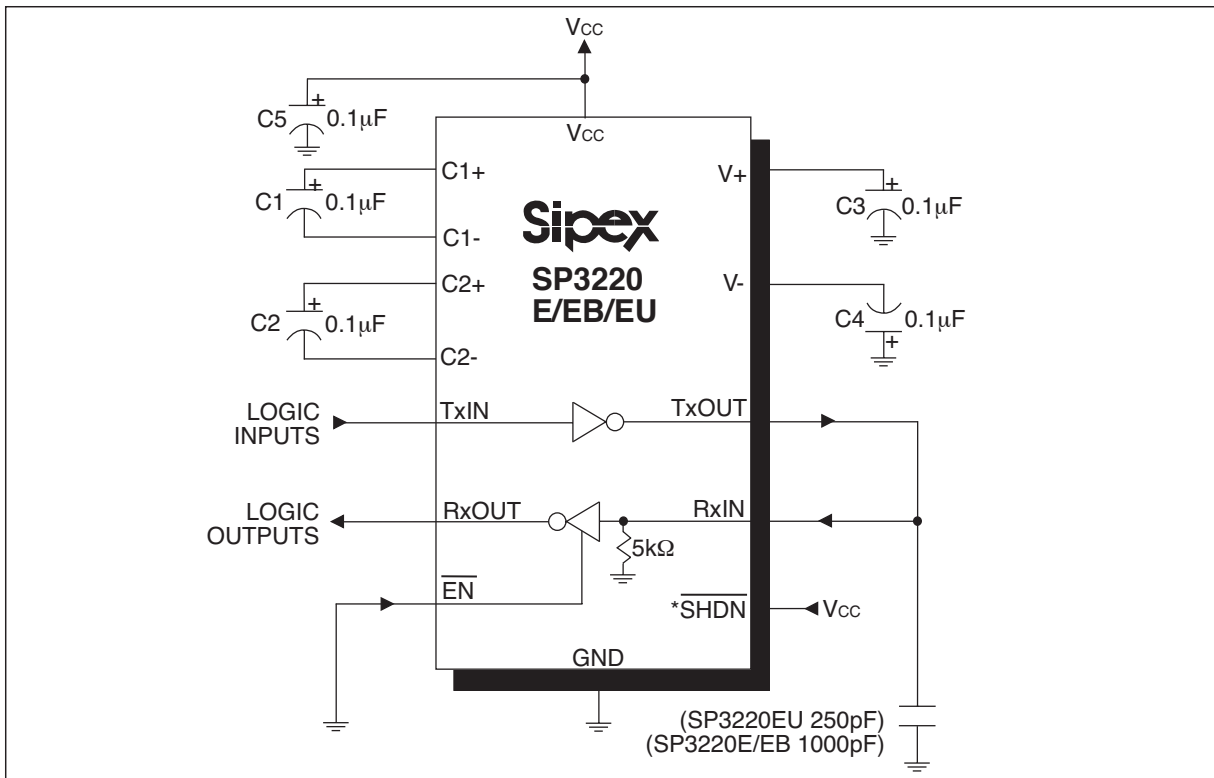
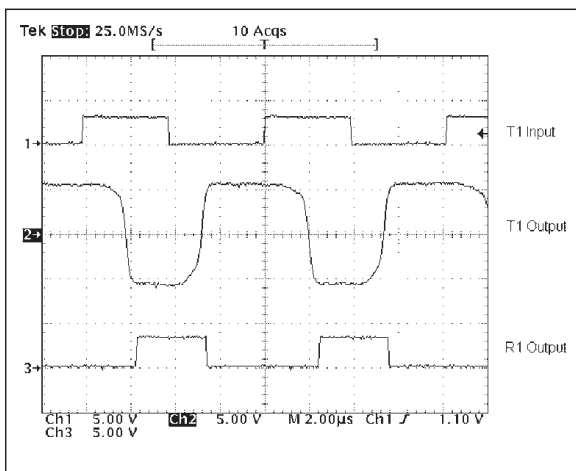
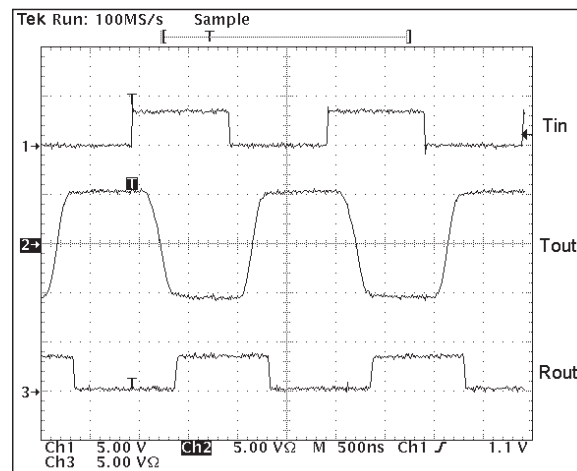

Figure 12. SP3220E/EB/EU Driver Loopback Test Circuit
Figure 13. SP3220EB Driver Loopback Test Results at 250Kbps
Figure 14. SP3220EU Driver Loopback Test Results at 1Mbps
*Figure 12* shows a loopback circuit used to test the RS-232 driver. *Figure 13* shows the test results of the loopback circuit with the SP3220EB driver active at 250Kbps with an RS-232 load in parallel with a 1000pF capacitor. *Figure 14* shows the test results where the SP3220EU driver was active at 1000Kbps and loaded with an RS-232 receiver in parallel with a 250pF capacitor. A solid RS-232 data transmission rate of 250Kbps provides compatibility with many designs in personal computer peripherals and LAN applications.